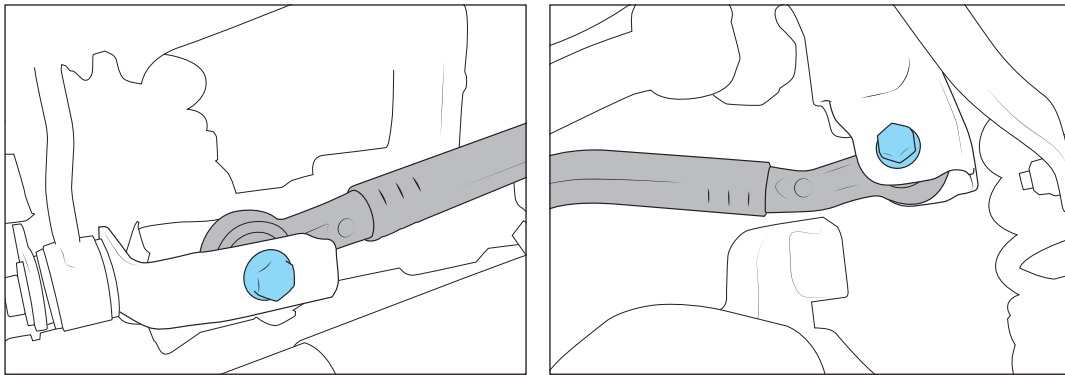

Figure 16: Axle-side (left) Frame-side (right)
3. Loosen but DO NOT remove both track bar bolts (Fig 16).